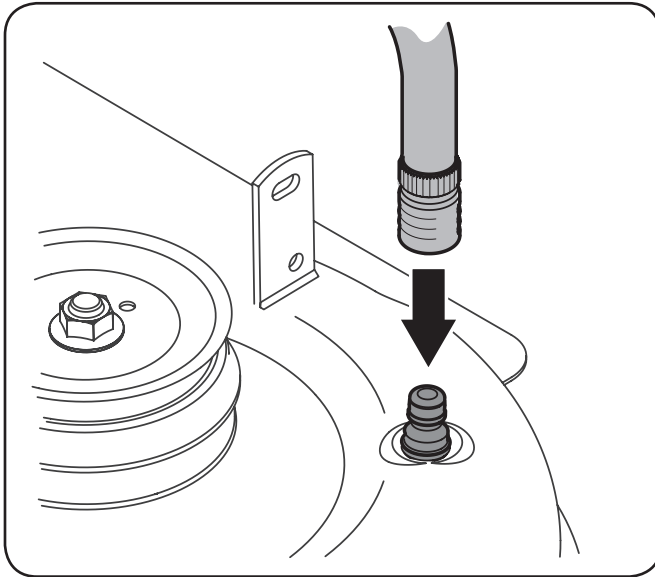

Figure 6-3
3. Attach garden hose with the deck wash nozzle to the water port on your deck's surface. See Figure 6-3.